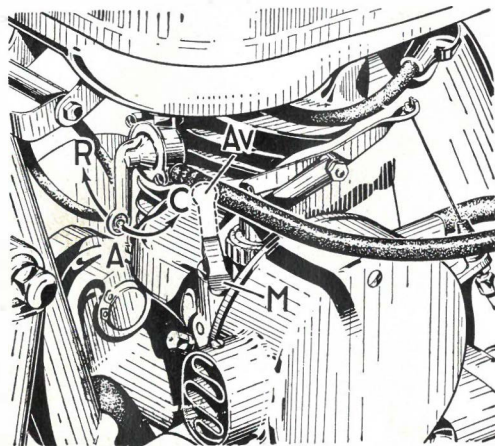
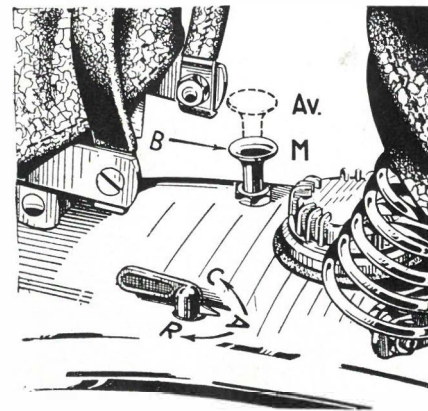
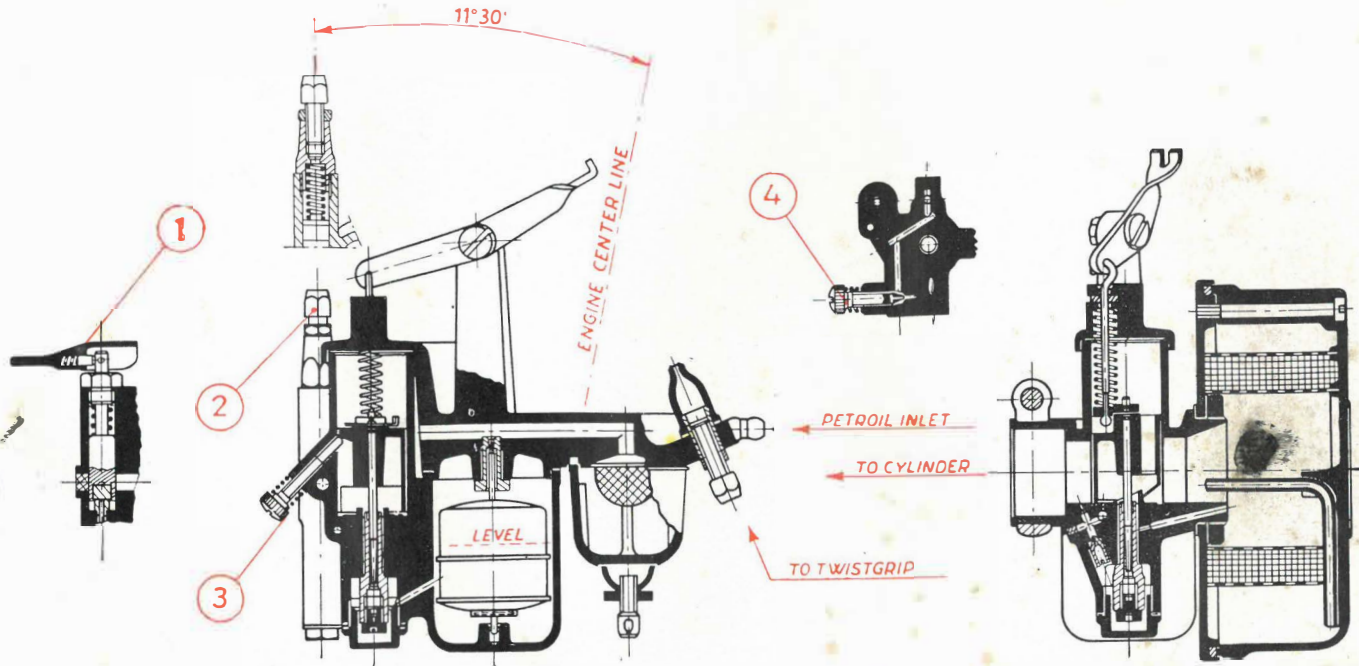

Fig. 12 - D Model - lever AV Position = Starting - M Position = Running.
Fig. 13 - LD Model - Button AV Position = Starting - M Position = Running.
Fig. 14 - A detailed drawing showing the carburettor operation.
del the starter is controlled by a lever fitted at the top of the carburettor (see fig. 12 and Detail 1 fig. 14).
In the LD Model the starter is controlled by a button situated just behind the rider's seat (see fig. 13 or Detail 2 fig. 14).
Adjust idle with the engine warm. Adjustment is achieved by means of two screws: the throttle control screw (Detail fig. 14) and the mixture strength control screw.
First adjust the screw (3) - see fig. 14 - so that the engine turns over slowly; **then adjust the horizontal screw (4)** - fig. 14 - to obtain an engine running as smooth as possible, bearing in mind that with rich mixture the engine has a tendency to accelerate while on the other hand a weak mixture causes the engine to stop.